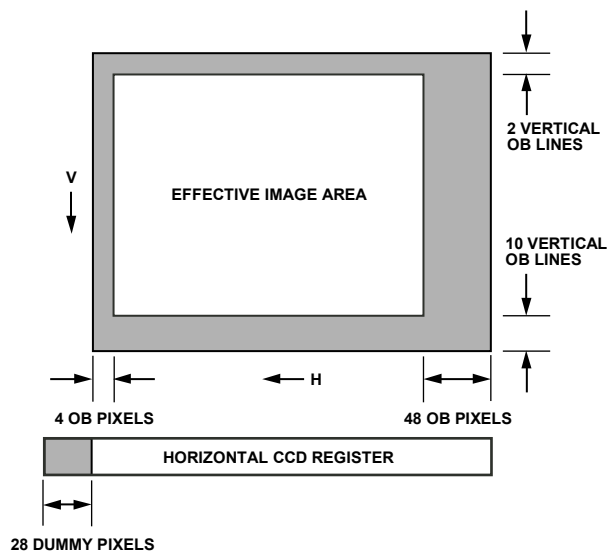

Figure 33. CCD Configuration Example
Figure 33 shows an example of a CCD layout. The horizontal register contains 28 dummy pixels that occur on each line clocked from the CCD. In the vertical direction, there are 10 optical black (OB) lines at the front of the readout and two at the back of the readout. The horizontal direction has four OB pixels in the front and 48 OB pixels in the back.